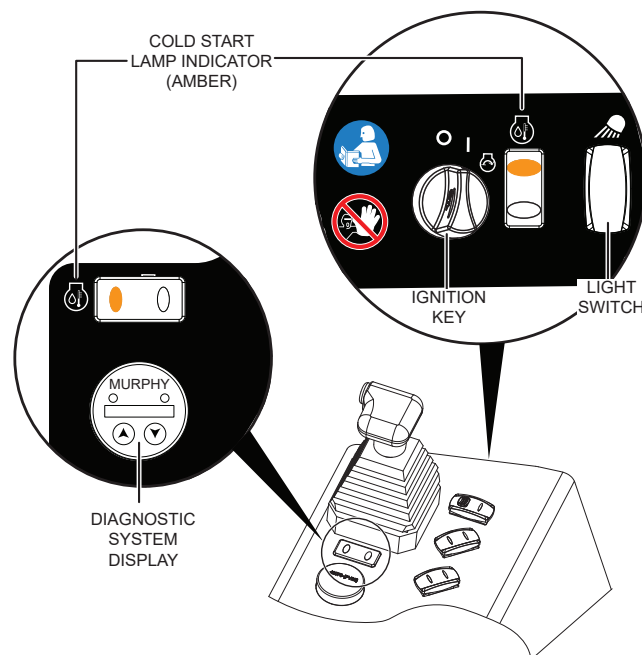

Figure 22. Cold Start Lamp Locations
- The cold start lamp indicator (**AMBER**) will remain on until the hydraulic oil reaches 130°F as shown in Figure 22 in the hydraulic system or at a 30-minute default time. The hydraulic cooling fan will come back on and the hydraulic fluid will be diverted away from the pitch relief valve.